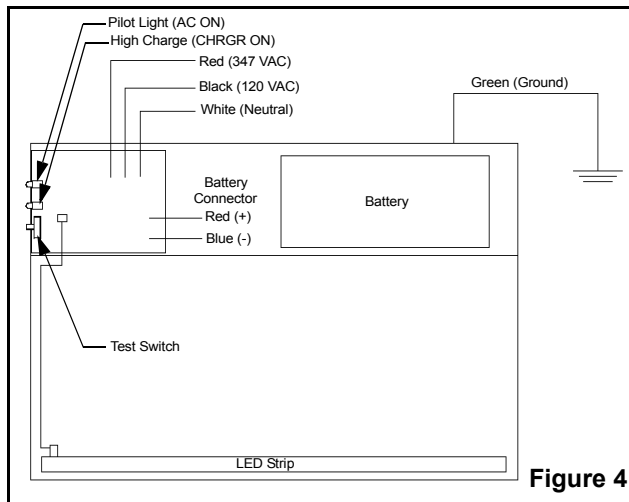

Figure 4
5. Make the proper connections: this unit accepts an input voltages of 120 and 347 VAC. **For 120 VAC:** connect the black wire to AC line voltage (120 VAC) and the white wire to neutral. **For 347 VAC:** connect the red wire to AC line voltage (347 VAC) and the white wire to neutral (see fig. 4). Feed the wire into the junction box. Some models come with wire extensions to ease the connection in wall mount position. Refer to figure 4 color code to connect the extension wires.